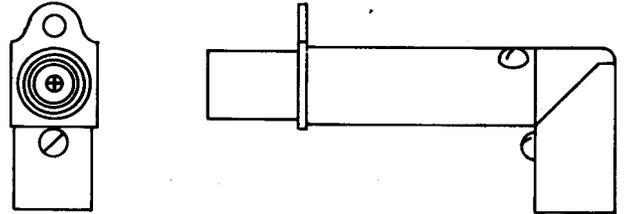

Fig. 17—474-Type Jack
**2.17 474B, C, and D:** These jacks each have right-angle, swivel elbows at one end and are arranged for a solderless shield connection to a 724 or similar-type cable by means of a sleeve which is furnished as a loose part with the jacks. These coaxial-type jacks (Fig. 17) are used in the 337 or similar-type plugs. The test voltage for each jack is 2000 volts ac.